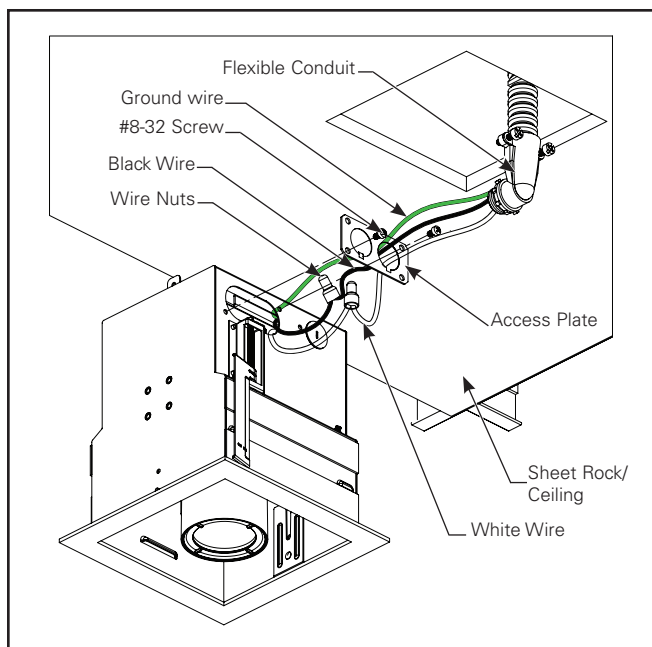

Figure 2.3.
- ii. Connect Black to Black and White to White wires by using wire nuts provided. (Figure 2.3)
- iii. Connect Ground wire to driver back plate using #8-32 screws (Figure 2.3)